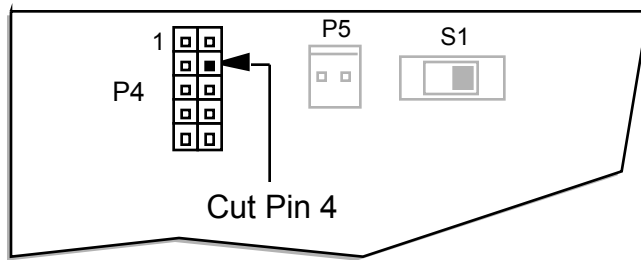

Figure 9
- Locate P4 on the Control board, a 10-pin, dual row (5 x 2) male connector (see Figure 9). P4's pins are numbered left to right, top to bottom (pin 2 is to the right of pin 1, pin 3 is below pin 1, etc.).